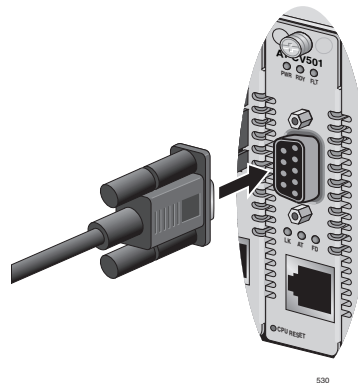

Figure 1. Connecting RS-232 Cable to AT-CV5M01 CPM's Console Port
1. Connect one end of a straight-through RS-232 cable with a DB-9 connector to the RS-232 Terminal Port on the AT-CV5M01 CPM card, as shown in Figure 1.